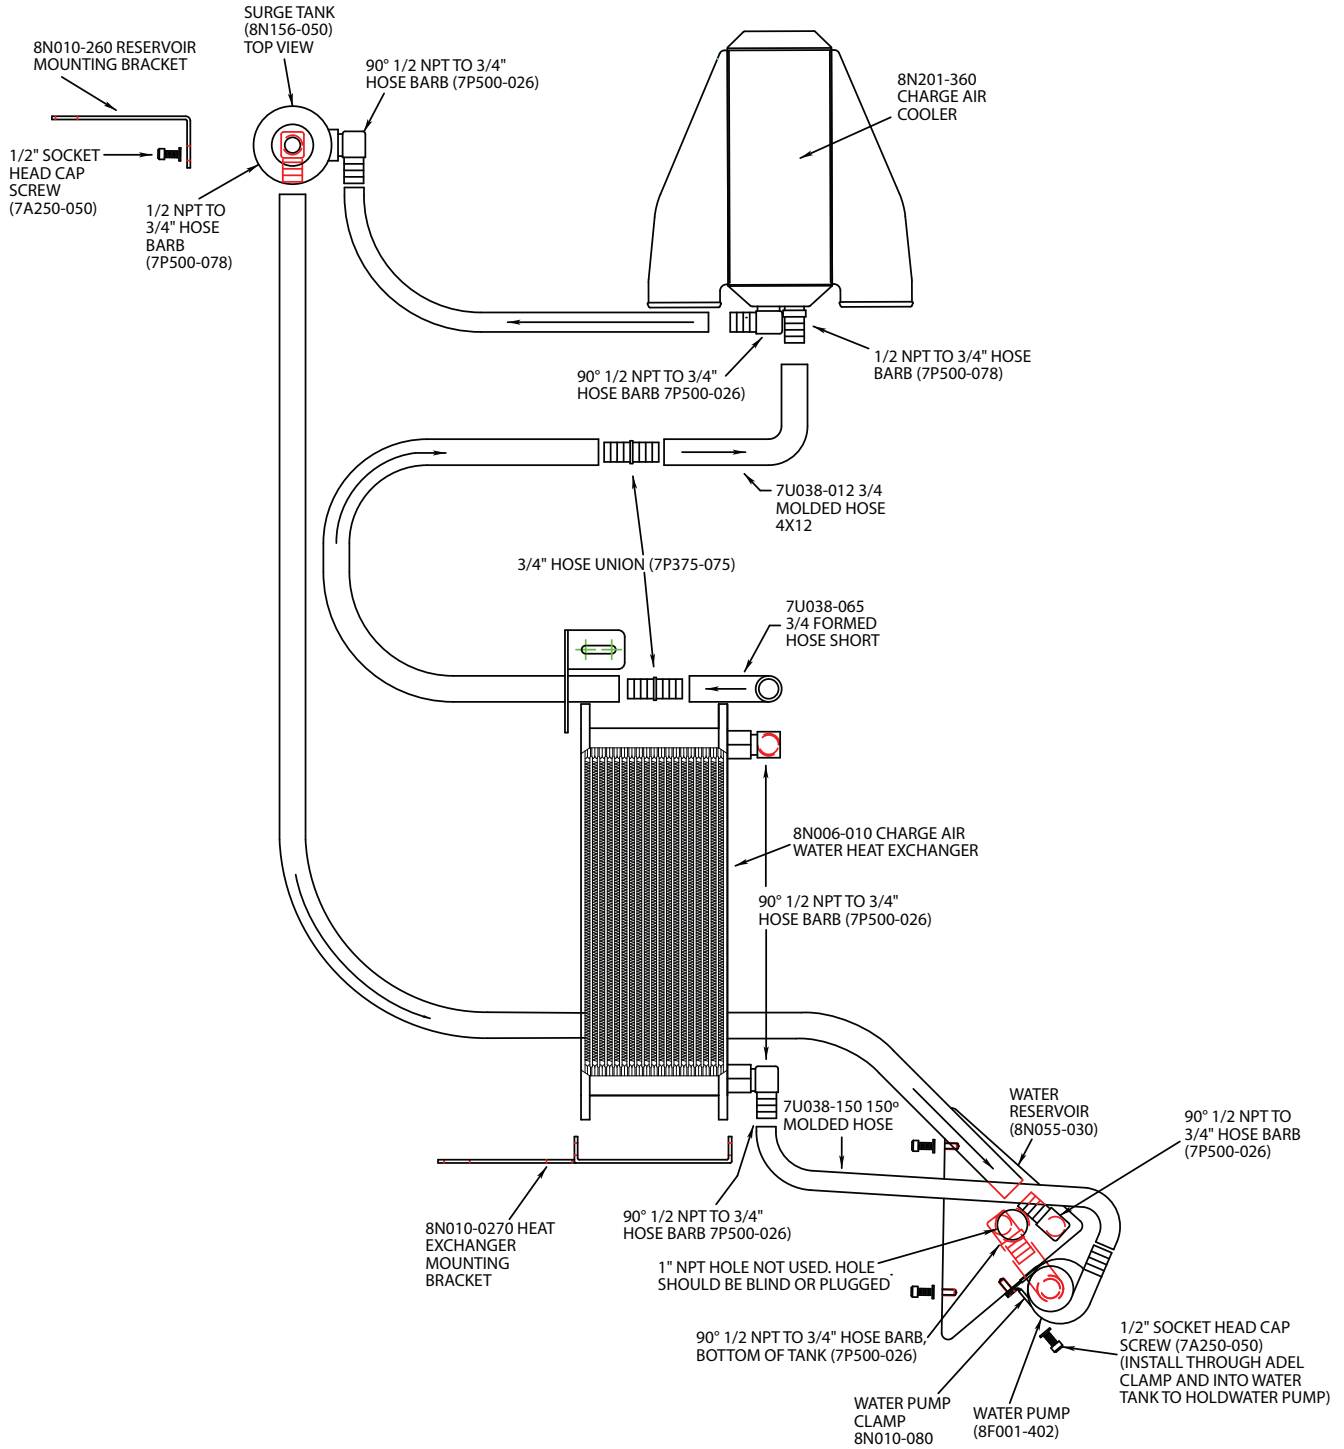

Fig. 12-a
- A. Using a $\frac{3}{4}$ " hose union and 2 nylon clamps extend the long leg of the 150° hose bend with additional $\frac{3}{4}$ " hose. (See Fig 12-c)